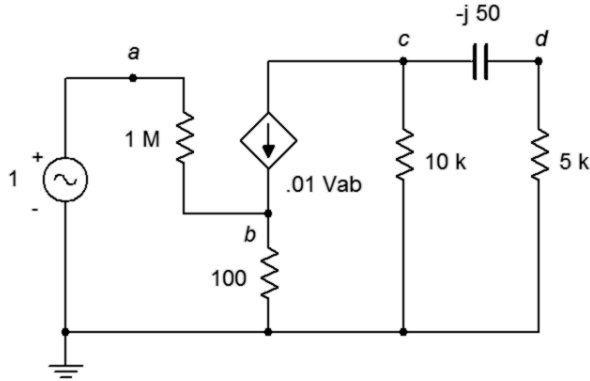

Figure 6.27
60. Given the circuit in Figure 6.27, determine the current flowing through the $100\ \Omega$ resistor.
61. Determine v_d in the circuit of Figure 6.27.